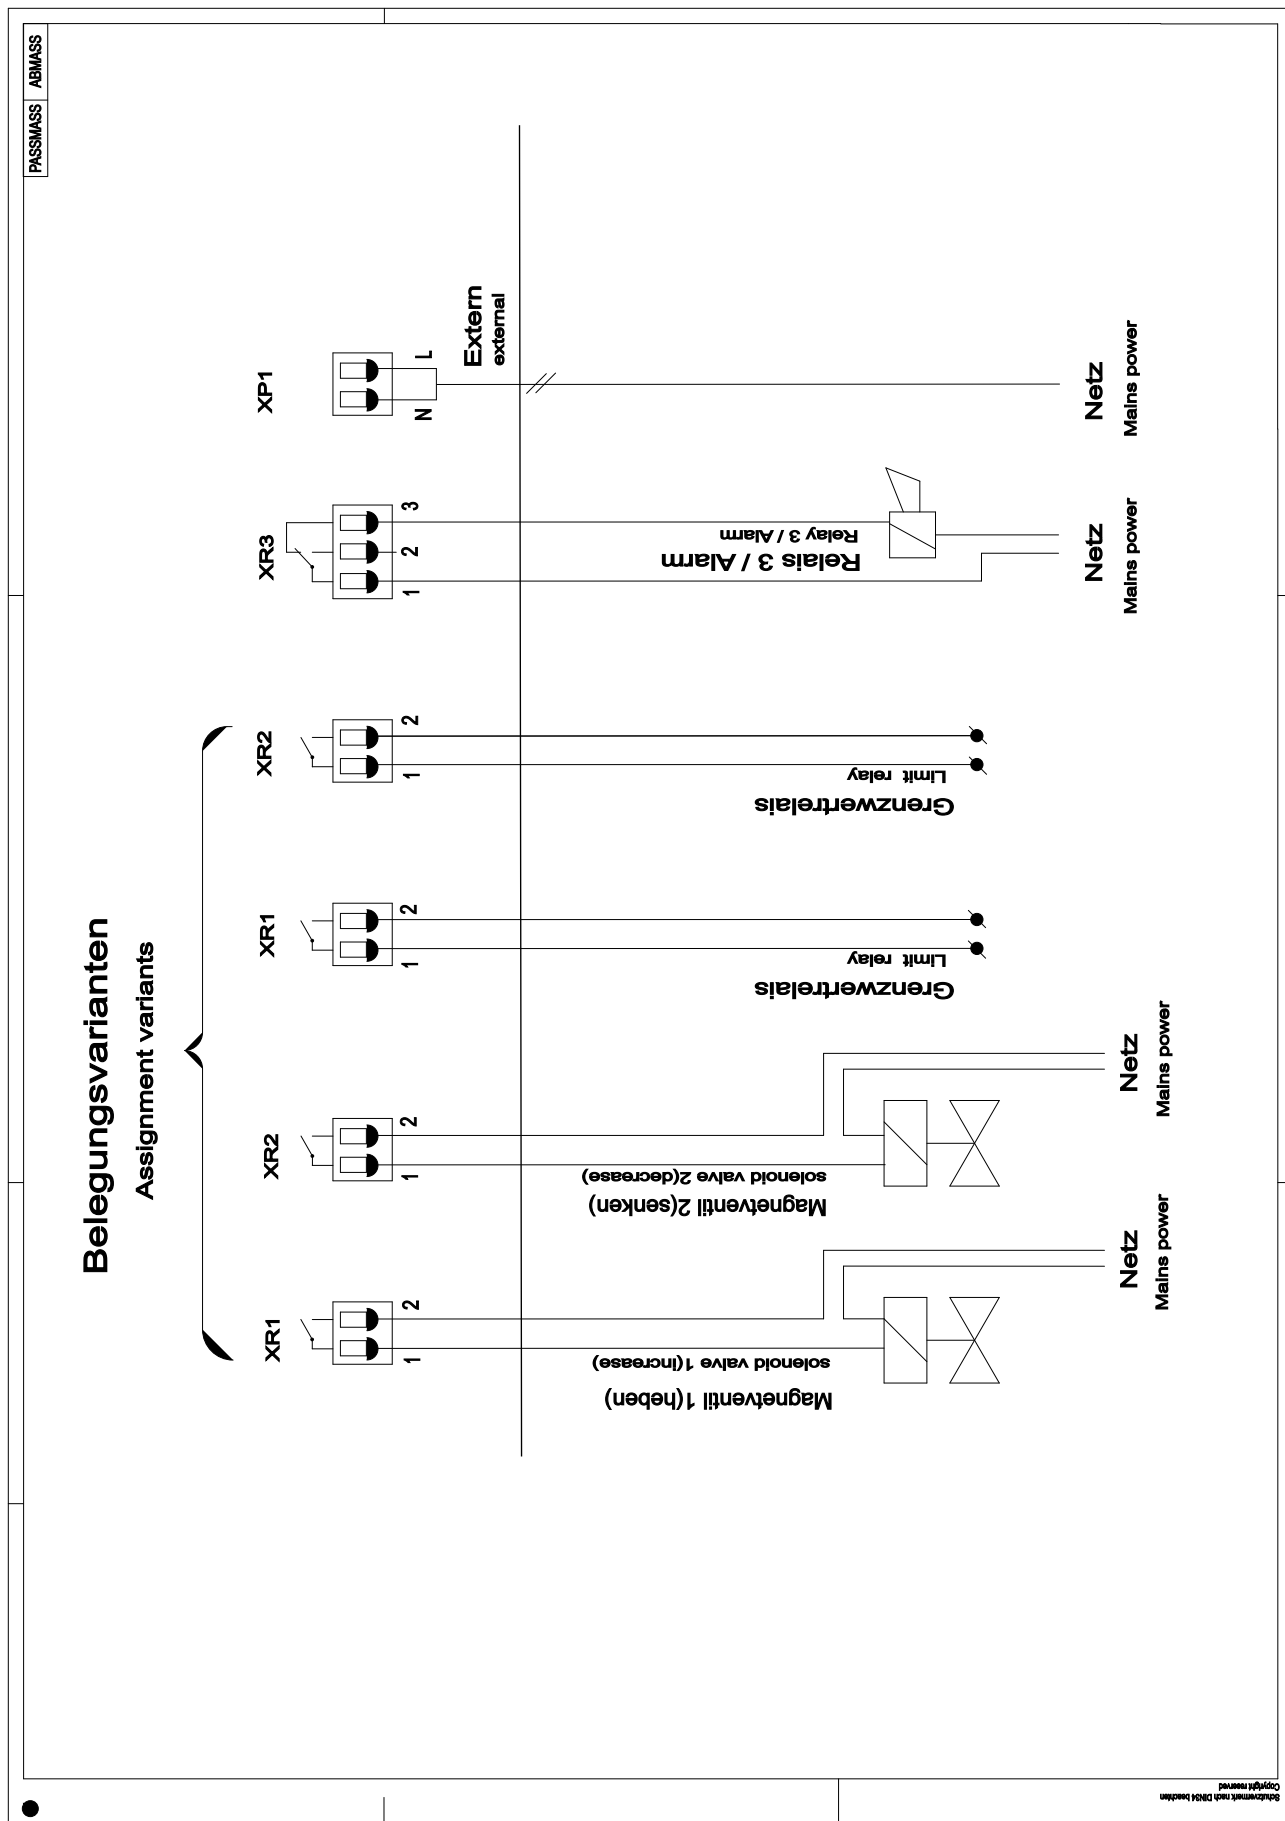

Fig. 9: Terminal diagram - Assignment options
2. ➤ Fit screw connection (1), pressure ring (2) and seal (3) onto cable
8. ➤ Connect up the wires to the terminals according to Fig. 9 the electrical wiring diagram